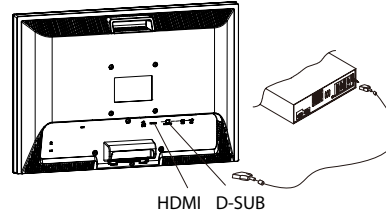

Figure1-5
2. Connect one end of the signal cable to the LCD Monitor's VGA port or HDMI port. (See Fig 1-5)